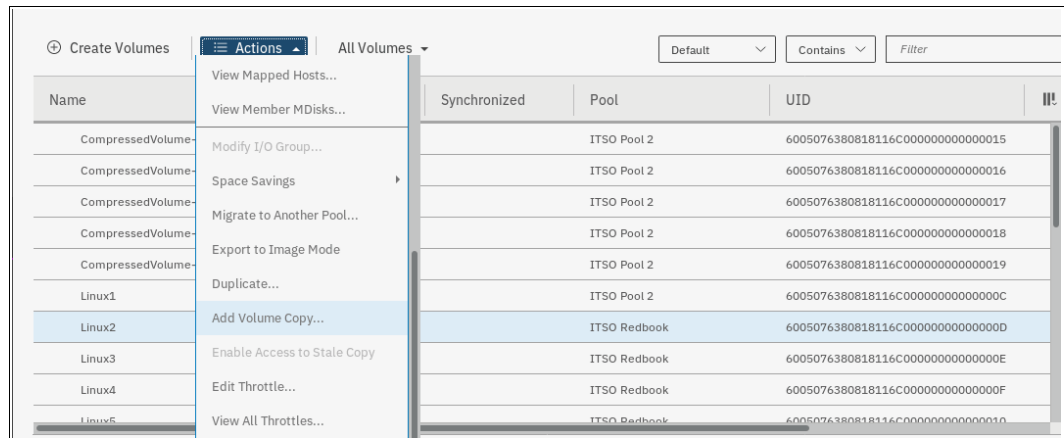

Figure 6-49 Adding the volume copy to another pool
1. Select the volume and select **Add Volume Copy** operation, as shown in Figure 6-49.